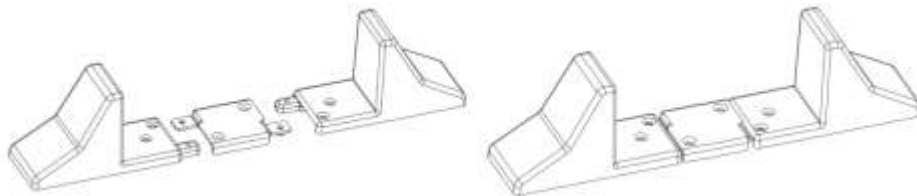

Figure 1-2 Support bases and spacers assembly
Various installation configurations are available: single UPS, single UPS with single or multiple battery cabinets. Their installation methods are all the same. Please prepare support bases and spacers before installation (1) Take out the support bases and spacers and then assemble the spacer and the support bases, shown as Figure 1-2.